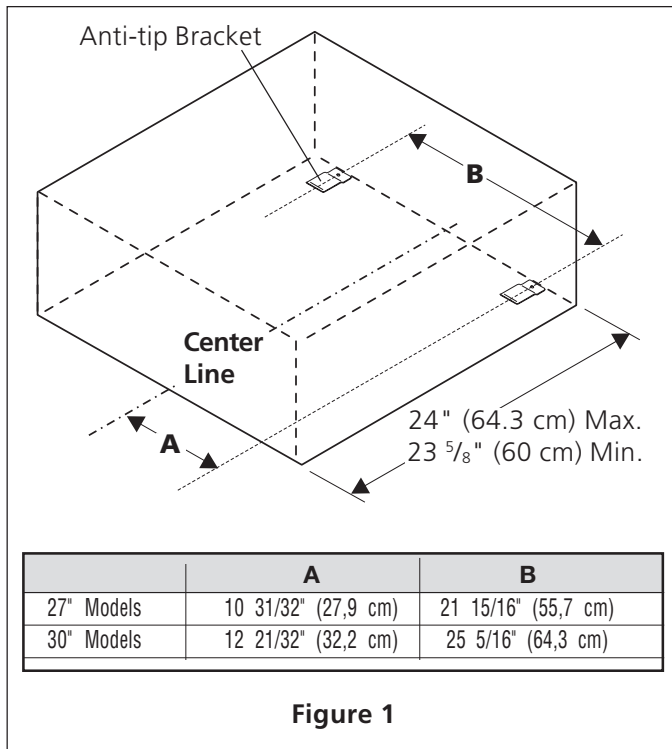

Figure 1
1. Locate the 2 anti-tip brackets supplied as shown on figure 1. Fix them using 2 of the 4 black head screws (10-16 X 1 1/4") supplied.